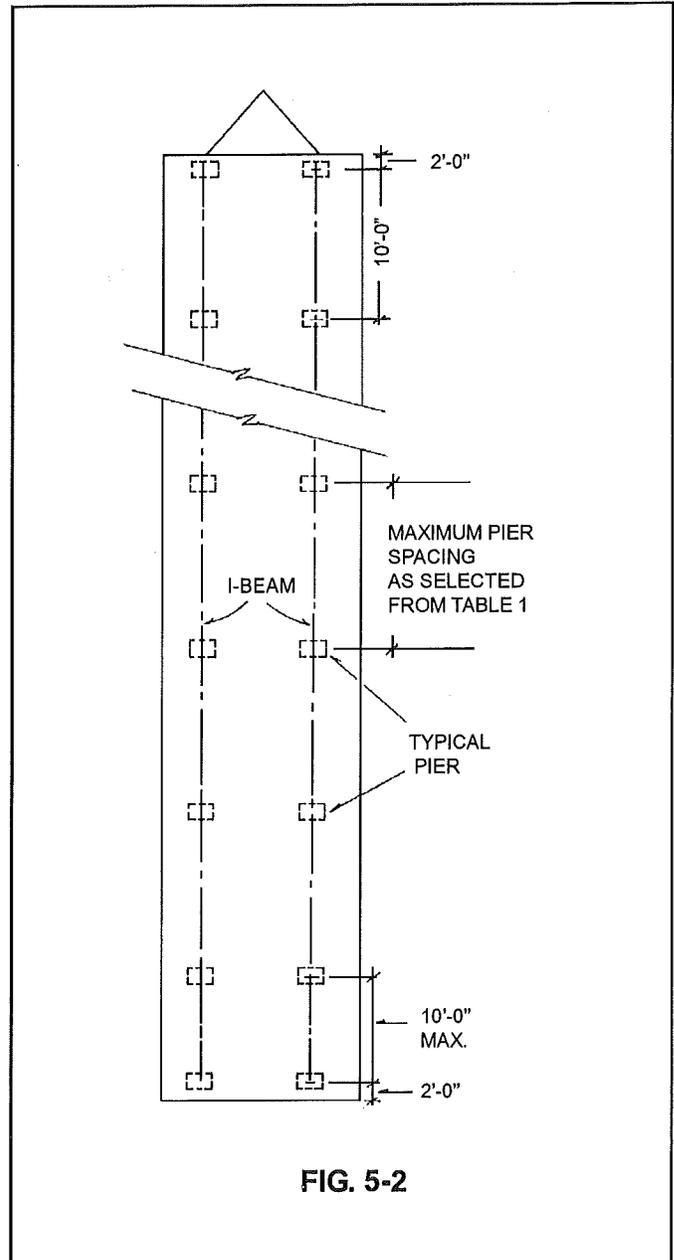

FIG. 5-2
5. Place the remaining pier supports under the main I-beam on each side taking care to maintain a maximum distance of no more than the spacing determined from Tables 1 or 2 with piers located with 2'-0" of each end of each I-beam. (See Fig. 5-2)